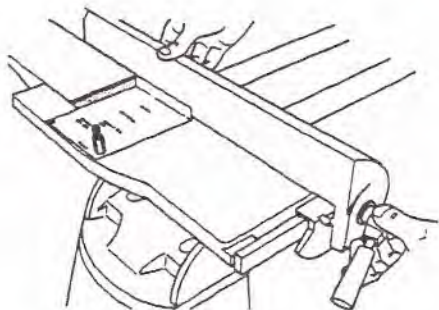

Fig. 6
12. Locate the fence so it touches the fold in the template. See Fig. 6. This will ensure that the folded template flap is square with the jointer base. Important: Make sure the fence contacts the entire width of the template. This is critical for exactly placing the indentation in Step 13.